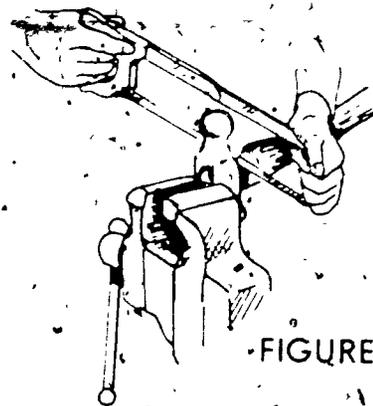

FIGURE 1
- B. Saw the broken handle close to the hammer head with a hacksaw (Figure 1)